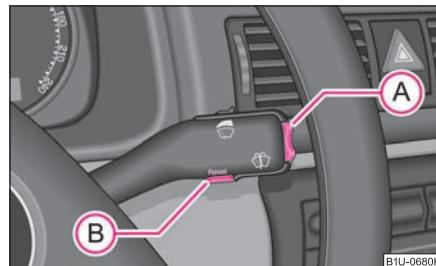

Fig. 21 Multi-functional indicator: Control elements
Switching over the memory takes place with the button **(B)** ⇒ fig. 21.
The rocker switch **(A)** and the button **(B)** are located on the windshield wiper lever ⇒ fig. 21.
If you wish to determine the average fuel consumption over a certain period of time you must first erase the memory at the start of the new measurement using the button (B) ⇒ page 20, fig. 21. A zero appears in the display for the first 300 m you drive after erasing the memory.
The distance driven since the memory was last erased appears in the display ⇒ page 19. If you wish to calculate the distance driven from a particular time of day you must first erase the memory at this moment in time by pressing the button (B) ⇒ page 20, fig. 21.
The average speed since the memory was last erased is shown in the display in km/hour ⇒ page 19. If you wish to determine the average speed over a certain period of time you must first erase the memory at the start of the new measurement using the button (B) ⇒ page 20, fig. 21.
The driving time which has elapsed since the memory was last erased, appears in the display ⇒ page 19. If you wish to calculate the driving time from a particular time of day you must first erase the memory at this moment in time by pressing the button (B) ⇒ page 20, fig. 21.